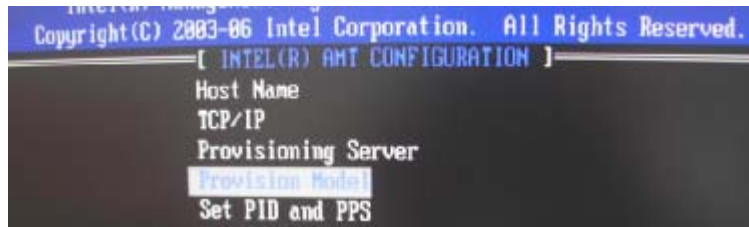

Figure 8-6: Provision Model
Step 6: Select **Provision Model** and press **Enter**. (Figure 8-6)